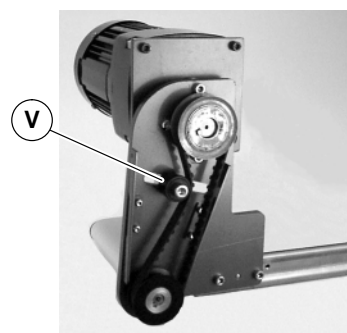

Figure 9
2. Loosen tensioner (V of Figure 9).
- Loosen tensioner (V of Figure 9).
5. Loosen tensioner (V of Figure 9).